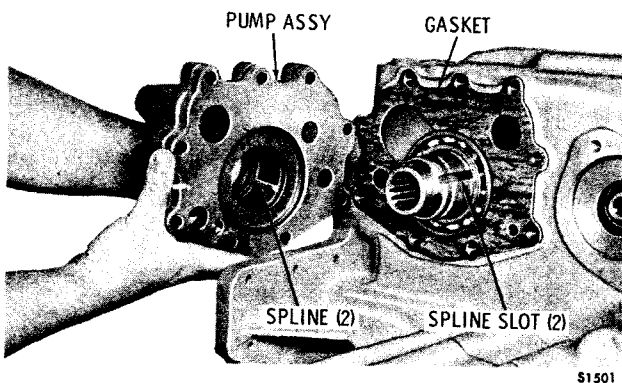

Fig. 7-40. Installing oil pump assembly
(1) Install the oil pump assembly and oil pump gasket onto the pump mounting pad (fig. 7-40).